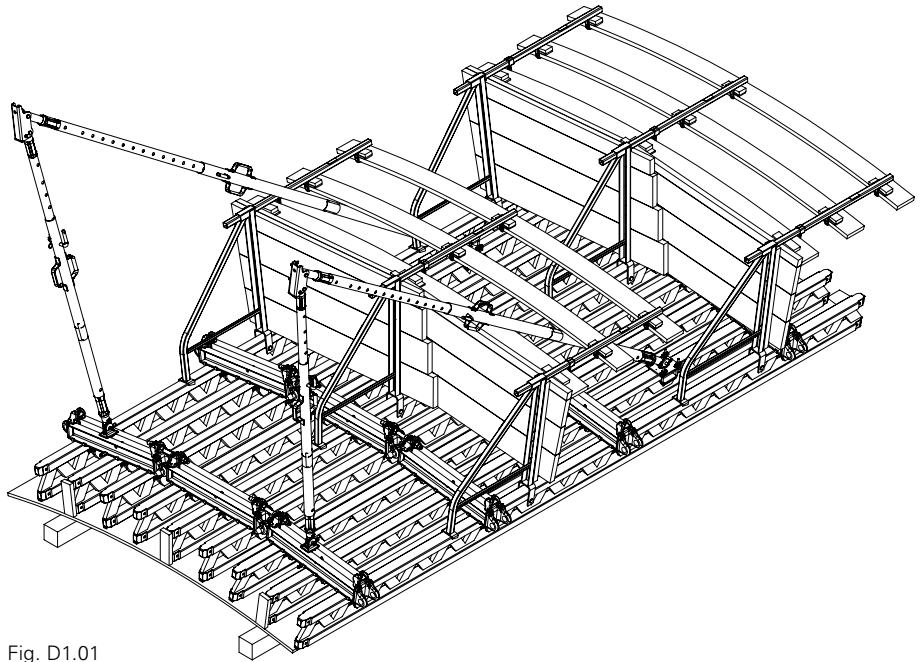

Fig. D1.01
2. Position the element on the assembly area or timbers. (Fig. D1.01)